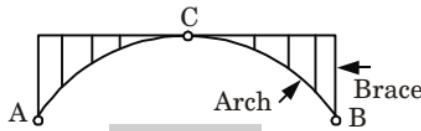

Fig. 5.17.1.
1. A three hinged spandrel braced arch is shown in the Fig. 5.17.1.